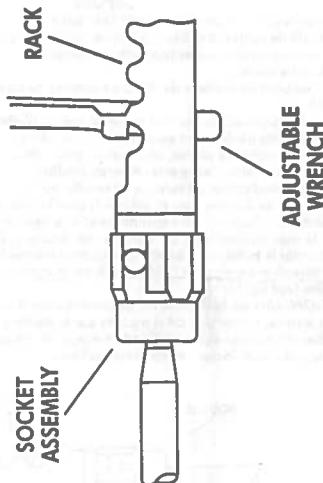

FIG. 1
4. Install new inner tie rod assembly on rack and torque to 60 ft.-lbs. (81 N-m). Remember to hold rack with an adjustable wrench to prevent it from turning. (See Fig. 1.)